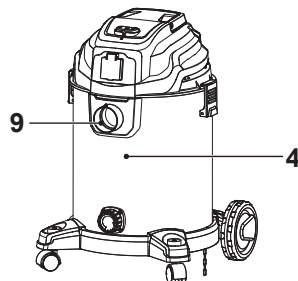

Fig. 24
- > During wet vacuuming, check the water level in the tank regularly. The water level should be below the air inlet (9) (Fig. 24). Empty the tank (4) regularly if large quantities of water are to be vacuumed.